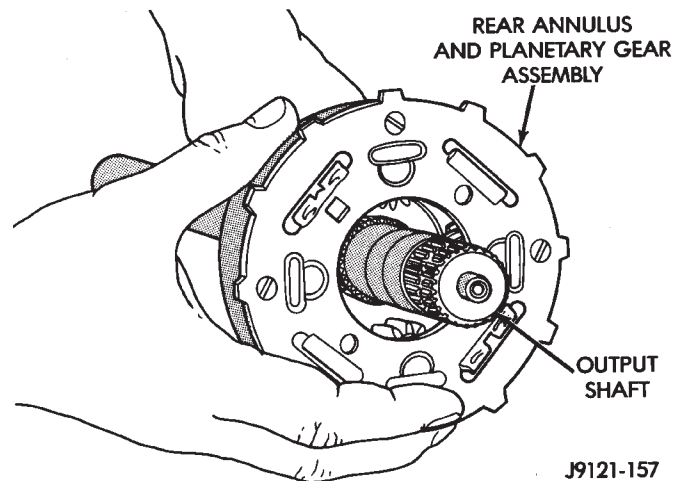

Fig. 81 Installing Rear Annulus And Planetary On Output Shaft
(5) Install assembled rear planetary and annulus gear on output shaft (Fig. 81). Verify that assembly is fully seated on shaft.